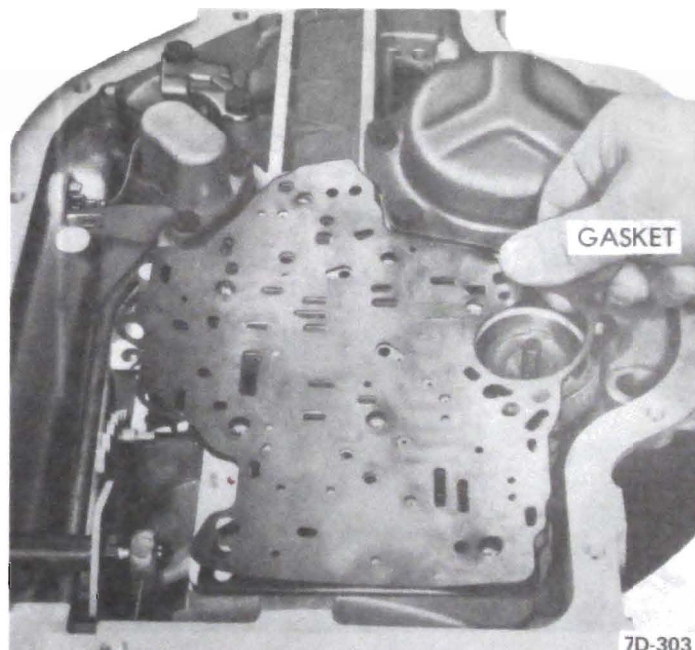

Figure 7D-227
4. Install control valve assembly and governor pipes on transmission, while carefully aligning the governor feed pipe over the governor screen. See Figure 7D-216. Make certain gasket and spacer do not become mispositioned.